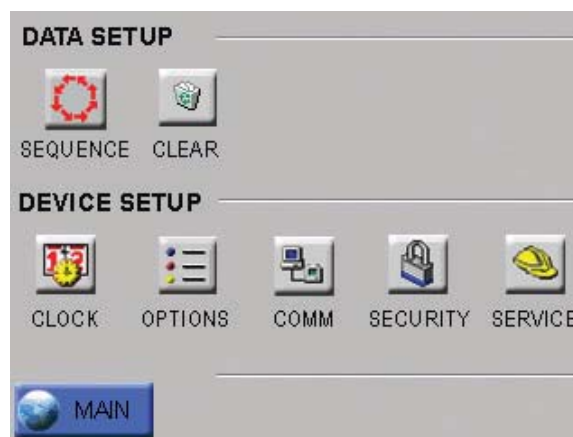

Figure 3-8 Controller CONFIG Screen
- Press the CONFIG button on the Manifold Controller's MAIN screen to open the CONFIG screen (Figure 3-8).